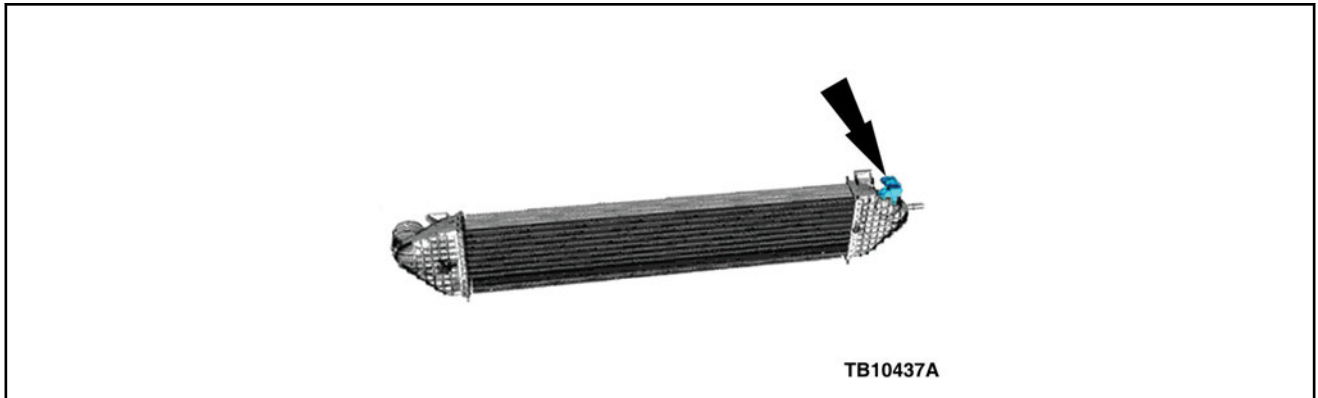

Figure 1 - Article 14-0034
- a. Yes - replace TCBP/CACT/MAPT sensor and fastener. Torque the fastener to 4.1 Nm +/- .7 Nm (36.3 lb-in +/- 6.2 lb-in) . Refer to Workshop Manual (WSM), section 303-14, and Wiring Diagram, Section 5-1. (Figures 1 and 2)
- (1) Other DTCs may also be present along with P007B, P0236 and P06A7, which share the VREF circuit.
- (2) 1.6L GTDI engine TCBP/CACT (MAPT) sensor location. (Figure 1)